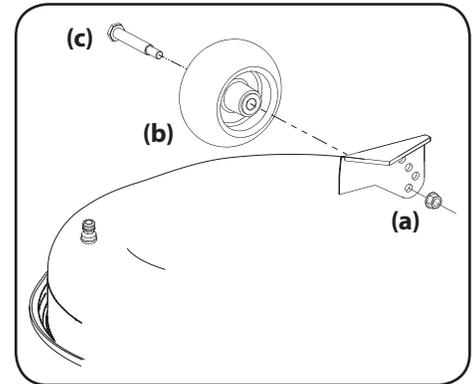

Figure 2-7
- a. Remove the lock nut (a) securing one of the front gauge wheel (b) shoulder screws (c) to the deck. Remove the gauge wheel (b) and shoulder screw (c). See Figure 2-7.